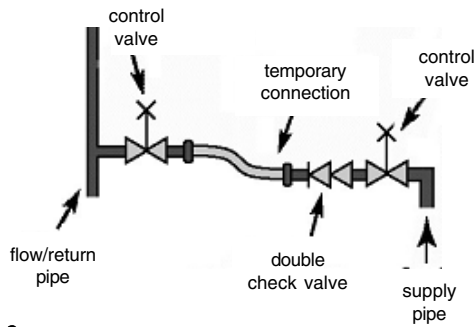

fig. 2
3.1 How to top-up the system pressure (fig. 2 & 3)
- Locate the filling valve connections (usually beneath the boiler, see fig. 2).